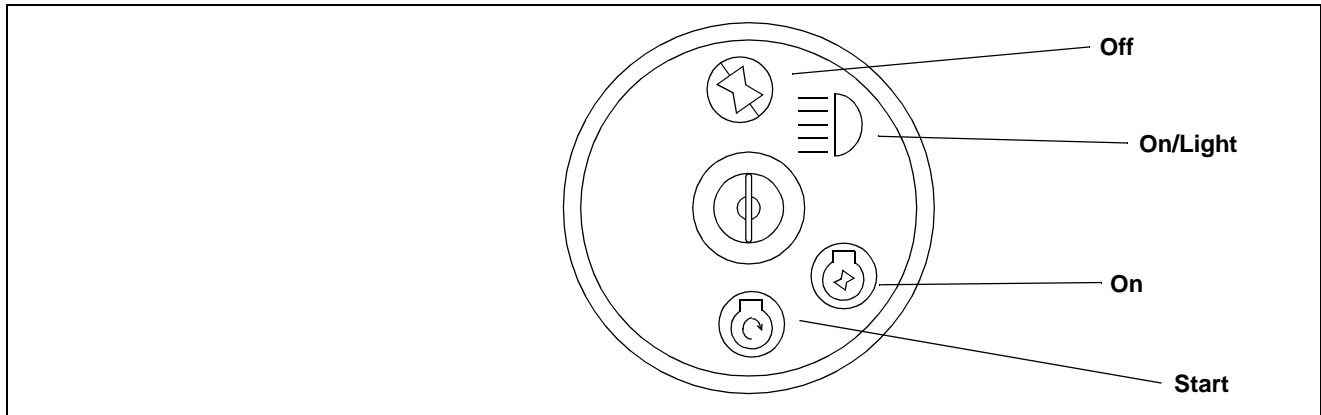

Figure 5
- In the **OFF** position the engine is not running. (See Figure 5)